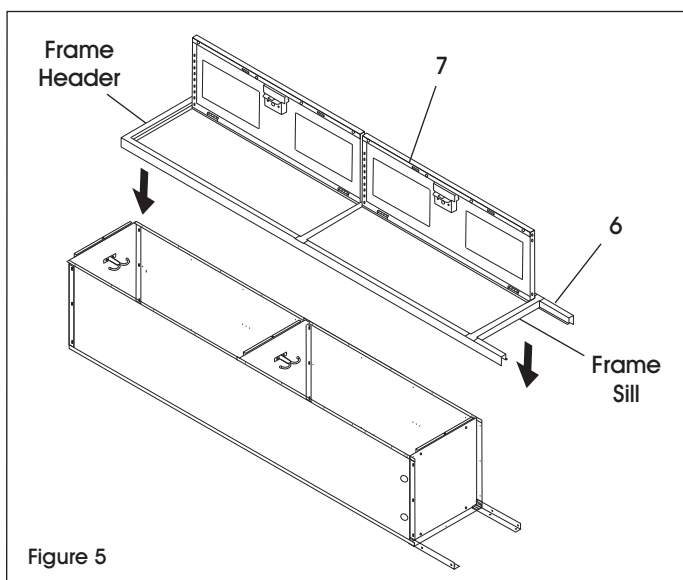

Figure 5
7. Place door and frame assemblies (6 and 7) over the locker body. Make certain that body sides are inside frames. Attach top to frame header and the bottom to frame sill. Finish by attaching side panels to door frame. (See Figure 5)